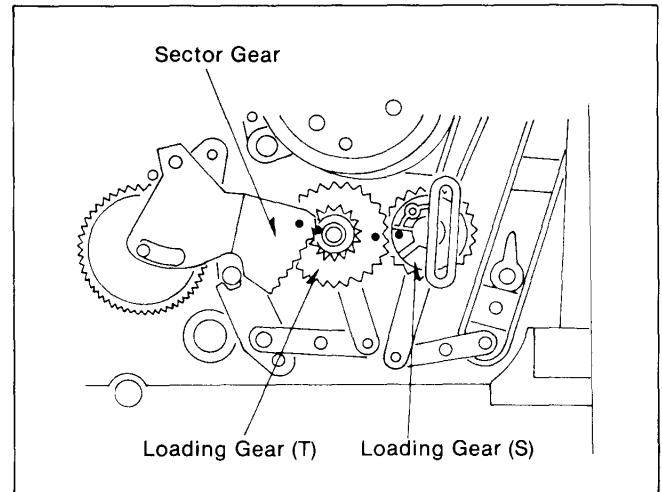
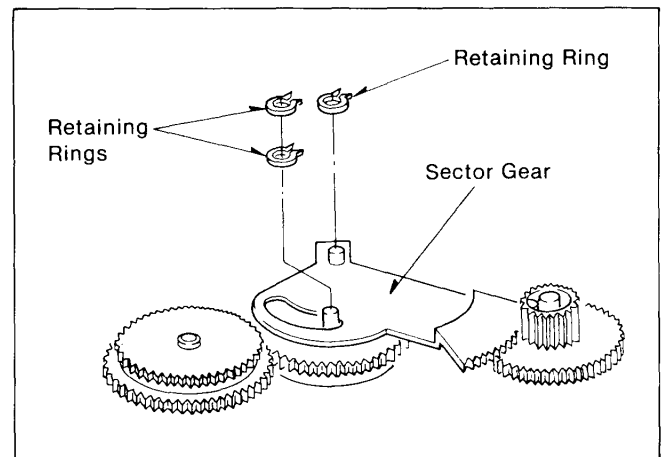

Figure M53
Figure M54
1. Set the P2 and P3 posts to fully unloaded position, then install the Loading Gear (T) and (S) so that the outer hole on the Loading Gear (T) aligns with the outer hole on the Loading Gear (S) as shown in Figure M53.
2. Install the Sector Gear so that the outer hole in the Sector Gear aligns with the projection mark on Loading Gear (T).
3. Insert 3 retaining rings as shown in Figure M54.